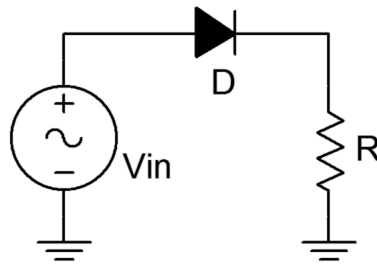

Figure 1
1. Consider the circuit of Figure 1. For an input voltage significantly larger than 0.7 volts, the diode will be forward biased for the positive half of the input sine wave. Therefore, all of the input signal (less 0.7 volts) will appear across the load resistor, R . Conversely, during the negative polarity of the input, the diode will be open, thus blocking any current and producing no voltage across the load.
2. Build the circuit of Figure 1 using $V_{in} = 10$ volts peak at 1 kHz and $R = 10$ k Ω . Set the oscilloscope inputs to DC coupled. Place one oscilloscope probe across the input generator and a second probe across the load resistor. Record the peak amplitude of the output load waveform in Table 1. Also, save an image of the scope trace showing both the input and output waveforms.